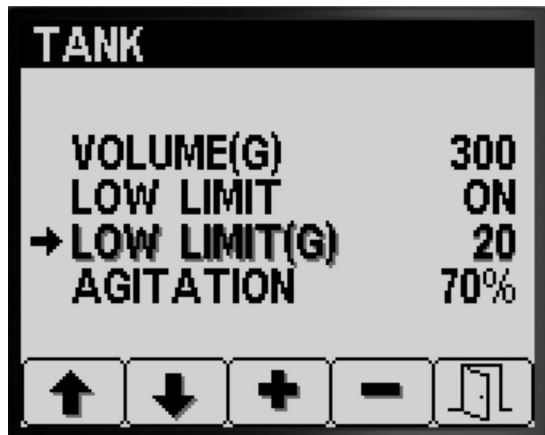

Figure 14
1. Press button 1 or 2 to navigate to the LOW LIMIT volume option (Figure 14).
2. Press button 4 to select the LOW LIMIT volume entry (Figure 14).
3. Press button 3 or 4 to raise or lower the threshold volume at which the limit indicator displays in the InfoCenter (Figure 14).